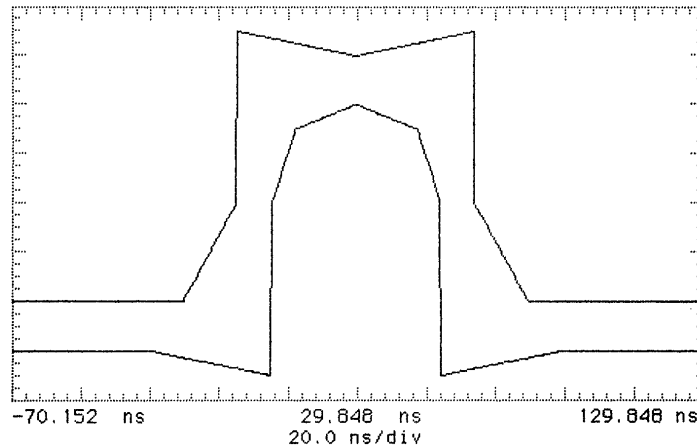

Figure 3-17
45. Press SHIFT **AUTOSCALE** on the oscilloscope to automatically align the pulse to the mask. Verify that the pulse falls within the mask as shown in Figure 3-17.
If your oscilloscope does not have the Mask feature, obtain a printout of the displayed pulse. Place the mask shown in Figure 3-17 over the pulse and ensure that the pulse falls within the mask (a transparent copy of the mask should be used).
49. Adjust the oscilloscope timebase, delay and vertical sensitivity controls to verify that the pulse meets the mask as shown in Figure 3-17. Use the displayed settings as a guide.